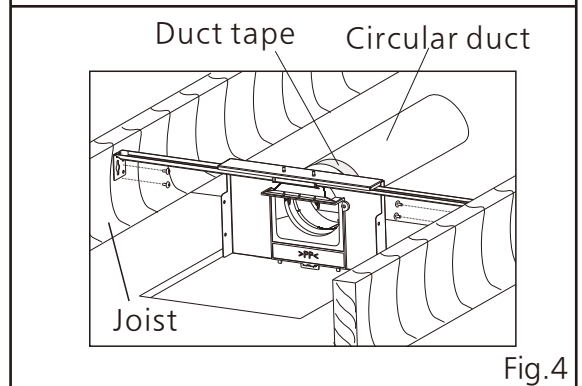

Fig.4
- (2) Using 4 of the ST4.2X30 tapping screws provided in the accessory package to fix the suspension brackets to the joists. (Fig.4)
4. Slip the circular duct onto the adaptor and secure it with duct tape.(Fig.4)